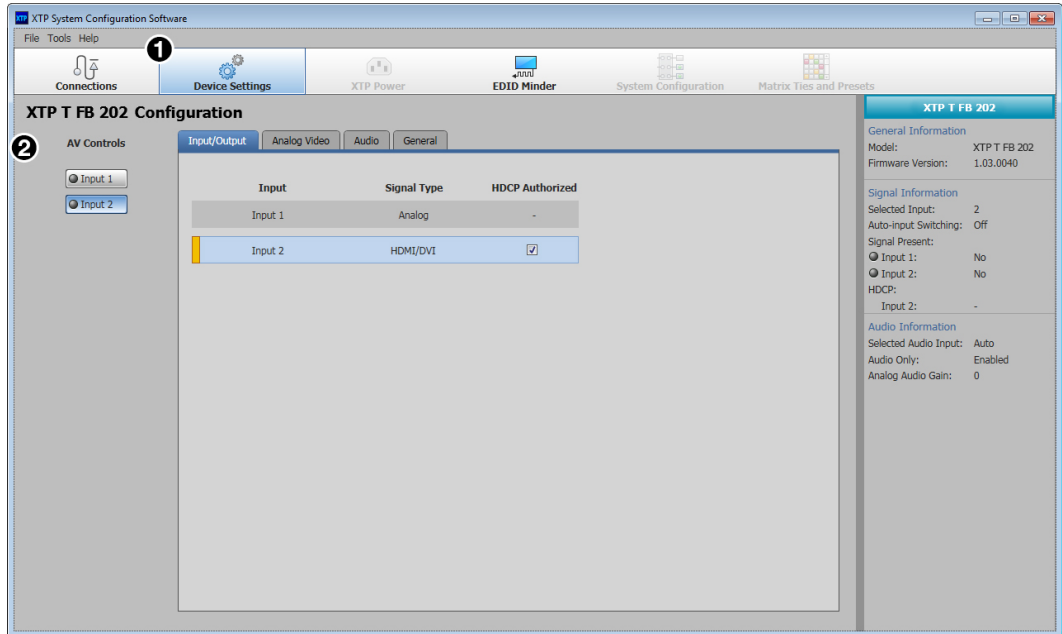

Figure 33. Transmitter Device Settings Screen
The **Device Settings** screen allows a user to view and edit various device settings for the device directly connected to the PC running the XTP software. Click the **Device Settings** icon (see figure 33, ①) on the **Global Navigation bar** to open the **Device Settings** screen.